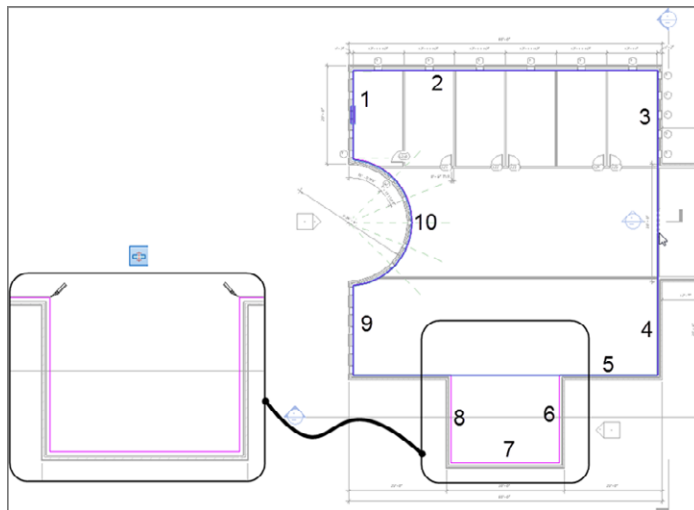

FIGURE 6.10 : Selecting the walls
5. Keep picking the walls, as shown in Figure 6.10. You need to have a continuous loop—no gaps and no overlaps.